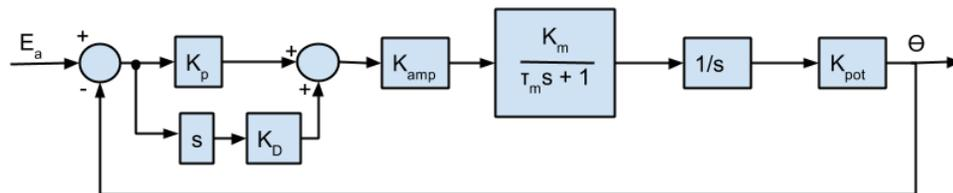
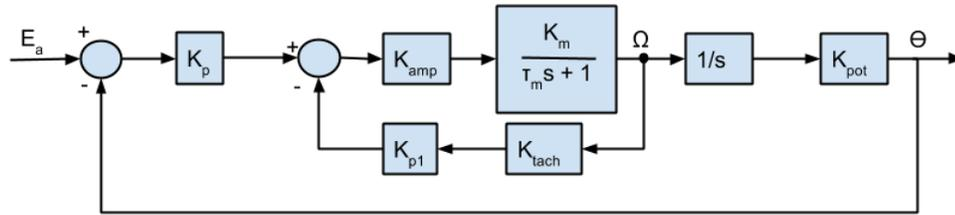
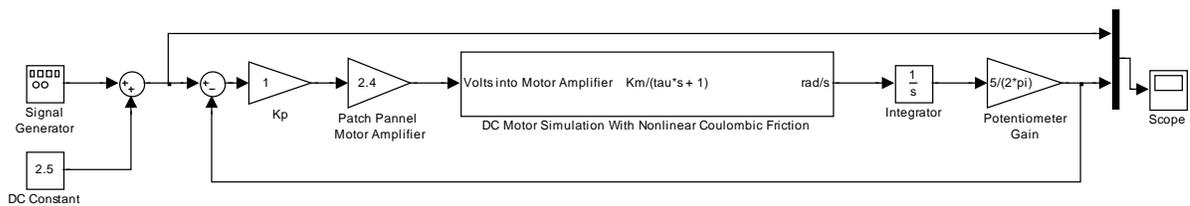

Figure 2: Proportional + Derivative Controller Block Diagram
Figure 3: Proportional + Speed Controller Block Diagram
Figure 4: Proportional Gain Control Simulink Block Diagram
The pre-lab uses previous lab results as well as an understanding of the proposed closed loop system. Refer to the Implementation Diagrams in: Figure 2, Figure 3 and Figure 4 for guidance. Ensure to take into account all the gains!
3. Change the controller in the previous question to a P-D as shown in Figure 2. Calculate the closed loop transfer function and choose values of K_d and K_p so as to satisfy the same design constraints as in question 2, Design 2. Hint: the closed loop transfer function's denominator that you find should simplify into the form of an ideal second order system.
4. Adjust the system to feedback the voltage from the tachometer as well as from the output potentiometer as in Figure 3. Then choose K_p and K_{p1} to satisfy the same design and the constraints from question 2, Design 2. Hint: the closed loop transfer function should simplify into the form of an ideal second order system.